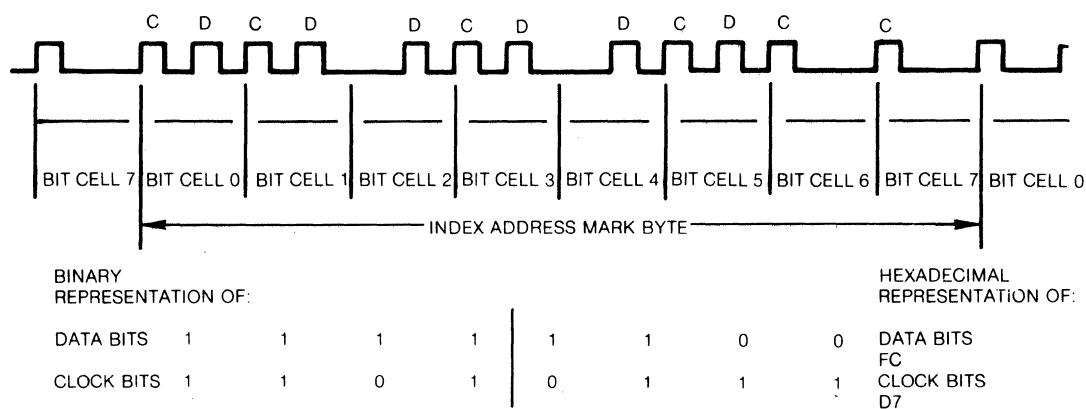

FIGURE 10. INDEX ADDRESS MARK FM
Index Address Mark (FM) - is a unique byte to identify the index field and is not written per the encode rules. Refer to Figure 10.